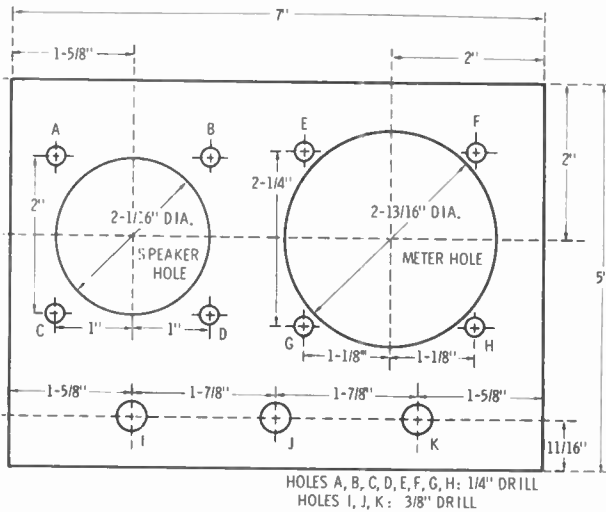
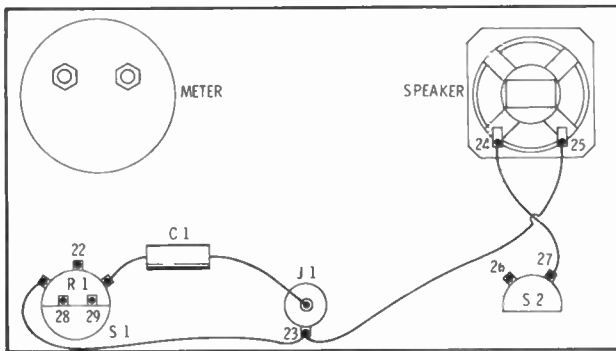

Fig. 7-3. Front-panel drilling plan for the signal tracer.
Fig. 7-6. Components and wiring on front panel.
of the instrument (the self-contained battery stands to the left, front). Fig. 7-3 gives the complete drilling plan for the front panel. Fig. 7-4 is the circuit diagram. Figs. 7-5A and 7-5B show the layout of components and wiring of the circuit board; and Fig. 7-6 shows the mounting and wiring of components on the front panel.
2. Drill the front panel of the *Minibox*, using the plan given in Fig. 7-3.
5. Wire the front panel, as shown in Fig. 7-6.